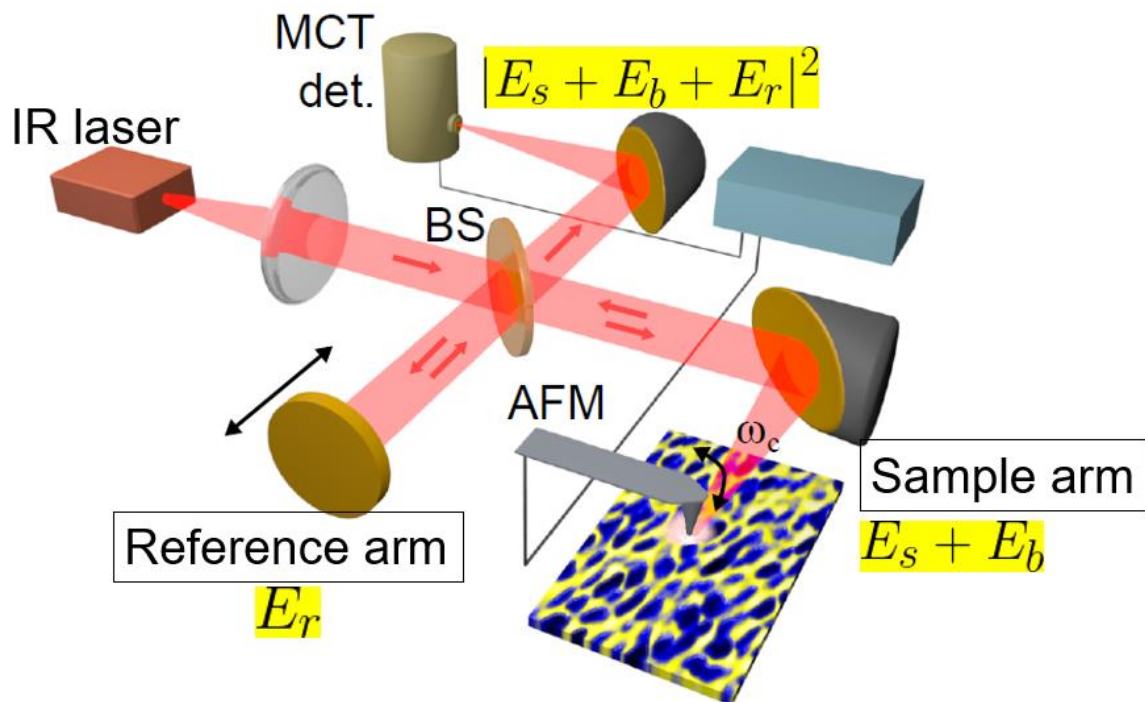

Figure 9-3: s-SNOM schematics showing signals
A typical s-SNOM experiment setup is illustrated in Figure 9-3. It consists of two key parts, a Michelson interferometer and an AFM at one arm of the interferometer (refer to as *sample arm*). In the *sample arm* of the Michelson interferometer, a focal optics (typically a parabolic mirror) focuses the incoming light to the tip and collects the scattered light; the other arm, called the *reference arm*, consists of a reflective mirror to coherently amplify the weak scattered light from the tip and for interferometric detection to resolve the optical phase. Due to the similarity in the optical detection scheme, s-SNOM can be seen as a natural extension of Fourier-transform infrared spectroscopy (FTIR).
- (a) Interferometric detected near-field signal forms a sinusoidal wave as the reference mirror linearly translated in the Michelson interferometer in Figure 9-3.